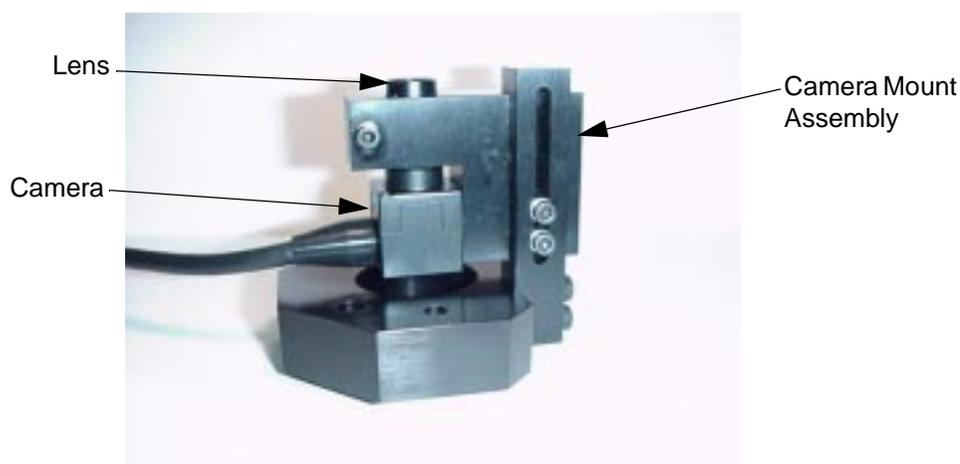

Figure 1-1. Camera, Lens, and Camera Mount Assembly
1. Prior to the actual installation, remove the camera mount from the packaging case and examine it. This assembly consists of an aluminum flange mount and slider assembly on which the camera and lens are mounted. On the flange mount is a raised circular ring for precise alignment to the central axis of the standard Adept user flange. For rotational alignment, a steel pin on the outer edge of the flange mount fits into a mating dowel-pin hole on the flange. The camera is essentially a 20 mm cube with a cable on the side and a 20 mm long cylindrical lens. The camera is mounted to the camera mount slider by the lens. (See Figure 1-1.)